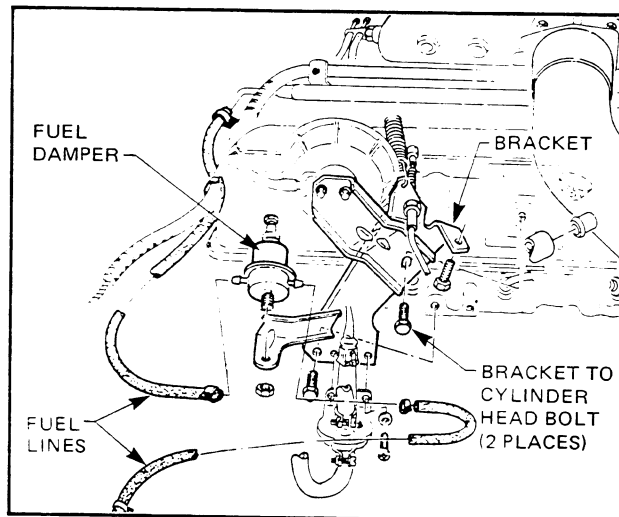

Figure 6A-14
14. Remove compressor mounting and bracket bolts and position compressor and bracket away from the cylinder head. Refer Fig. 6A-15.